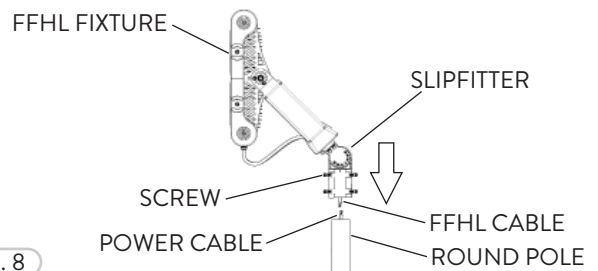

FIG. 8
- 4 The Slipfitter Mount can be mounted on a Round Pole (Ø2 3/8"). Run the FFHL Cable from the FFHL fixture and the Slipfitter Mount to the Pole and follow the Wiring Diagram provided to properly install the light fixture to the Power Supply Cable. Tighten the Slipfitter Screws (4) to secure the FFHL fixture to the Round Pole (Fig. 8).